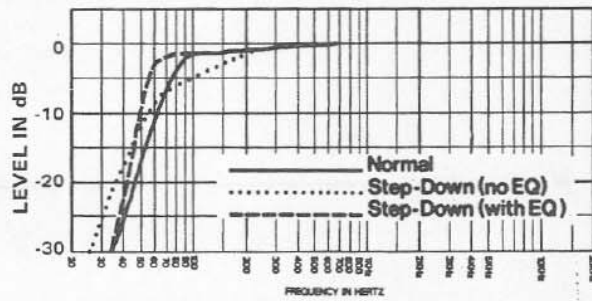

FIGURE 6
Figure 6 shows small-signal total acoustic power output versus frequency for the TL806/EVM-12L. In addition, Figure 7 shows the maximum acoustic power output versus frequency. The maximum output is limited by either (1) the thermal power handling capacity of the speaker, or (2) the speaker's maximum linear cone excursion capabilities, whichever occurs first. Note that some 2 to 3 dB of maximum output in the 80 to 130 Hz range is sacrificed when the step-down mode is used.